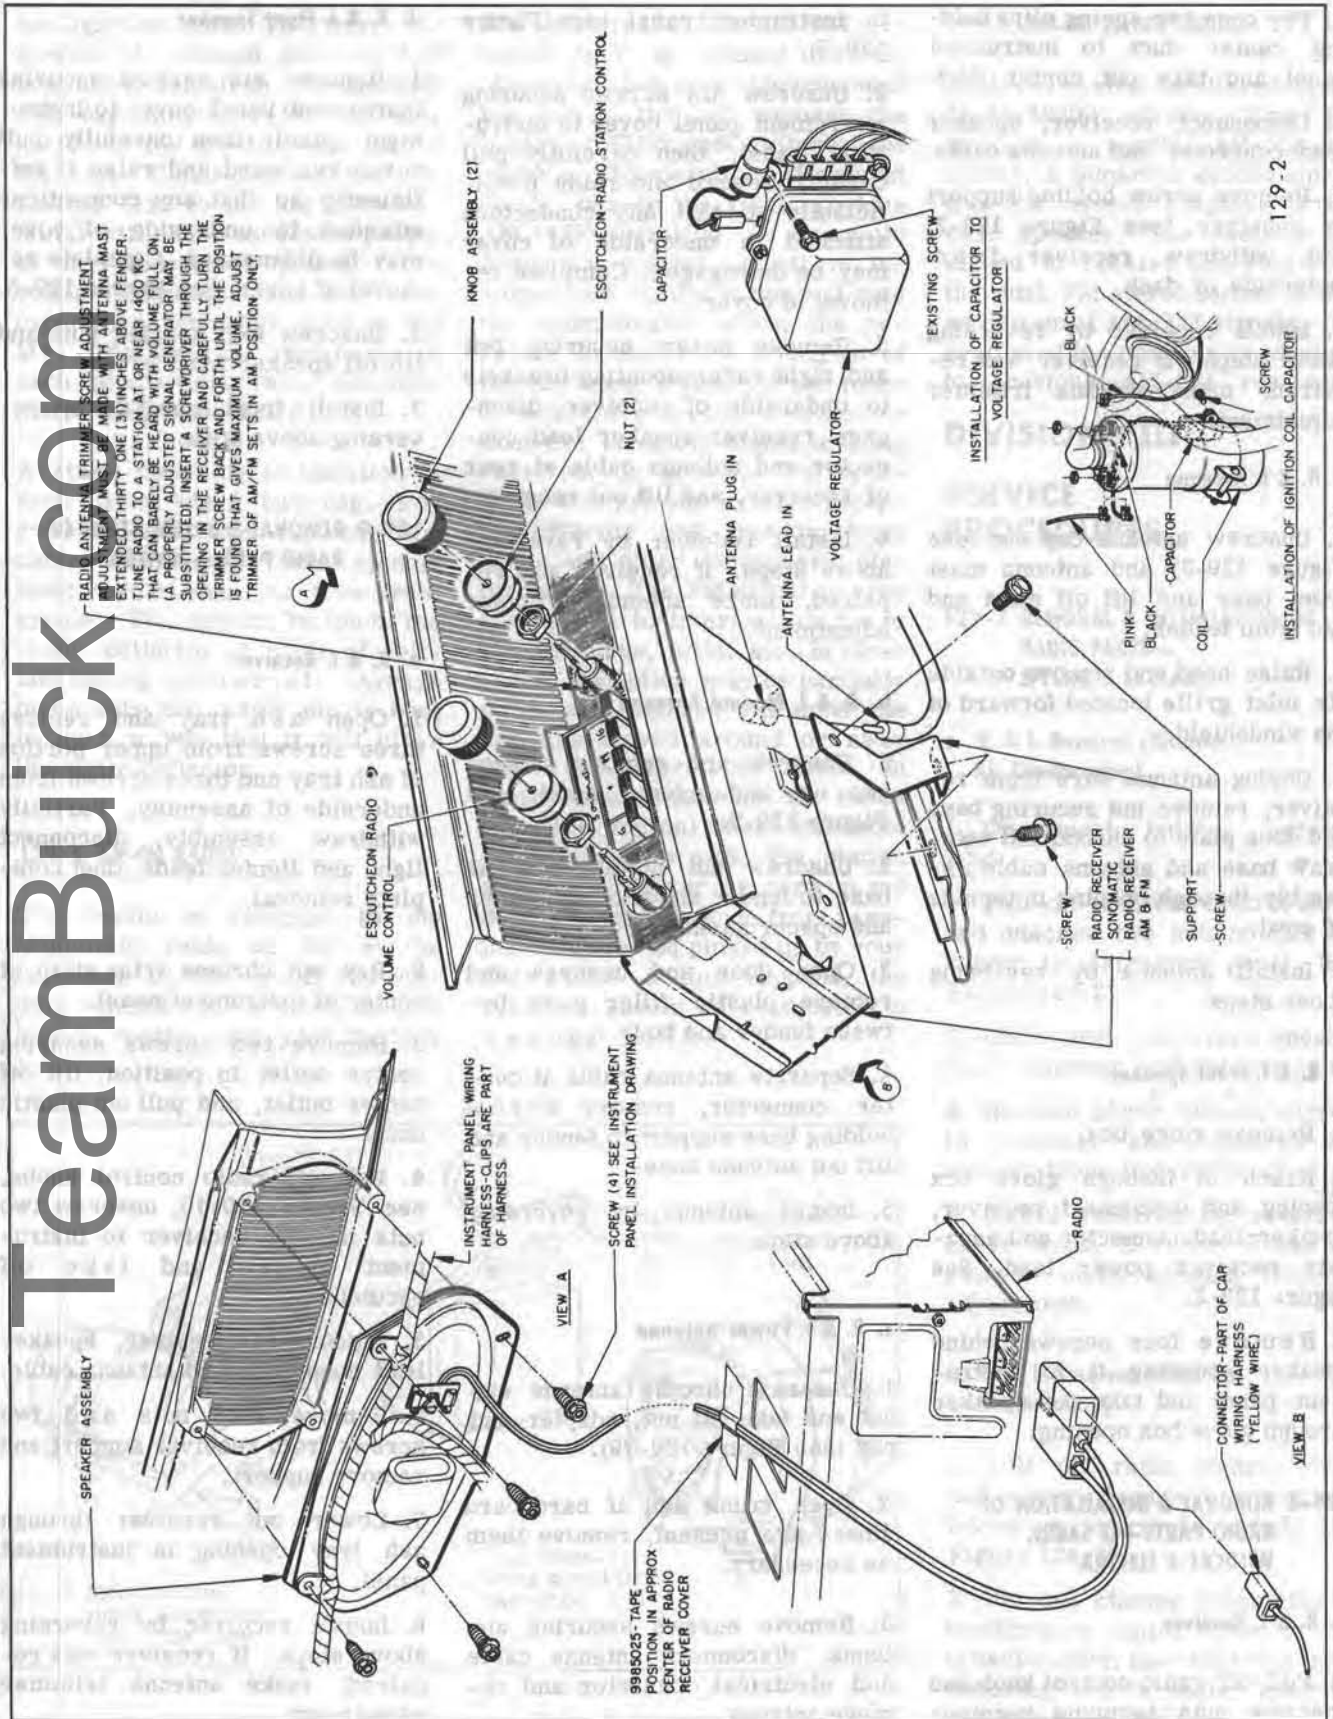

Figure 129-2—Radio Receiver Installation - Special and Skylark
2. Pull off receiver control knobs and unscrew two nuts holding receiver to instrument panel. (See Figure 129-2).
1. Pull off radio control knobs and unscrew nuts securing receiver to instrument panel. (See Figure 129-2).
5. Remove screw holding support to receiver (see Figure 129-2) and withdraw receiver from underside of dash.
2. Reach in through glove box opening and disconnect receiver, speaker lead connector and separate receiver power lead. See Figure 129-2.